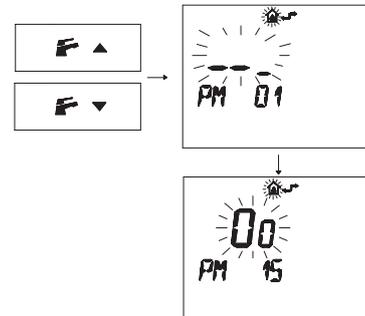

Figure 12.19
- Press the buttons **F** **▼** or **F** **▲** to display the programming “PM15” external probe enabling (Figure 12.19).